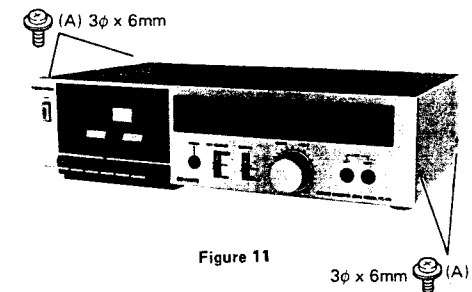

Figure 11
1. Remove four screws (A) from each side of Top Cover. (See Figure 11).